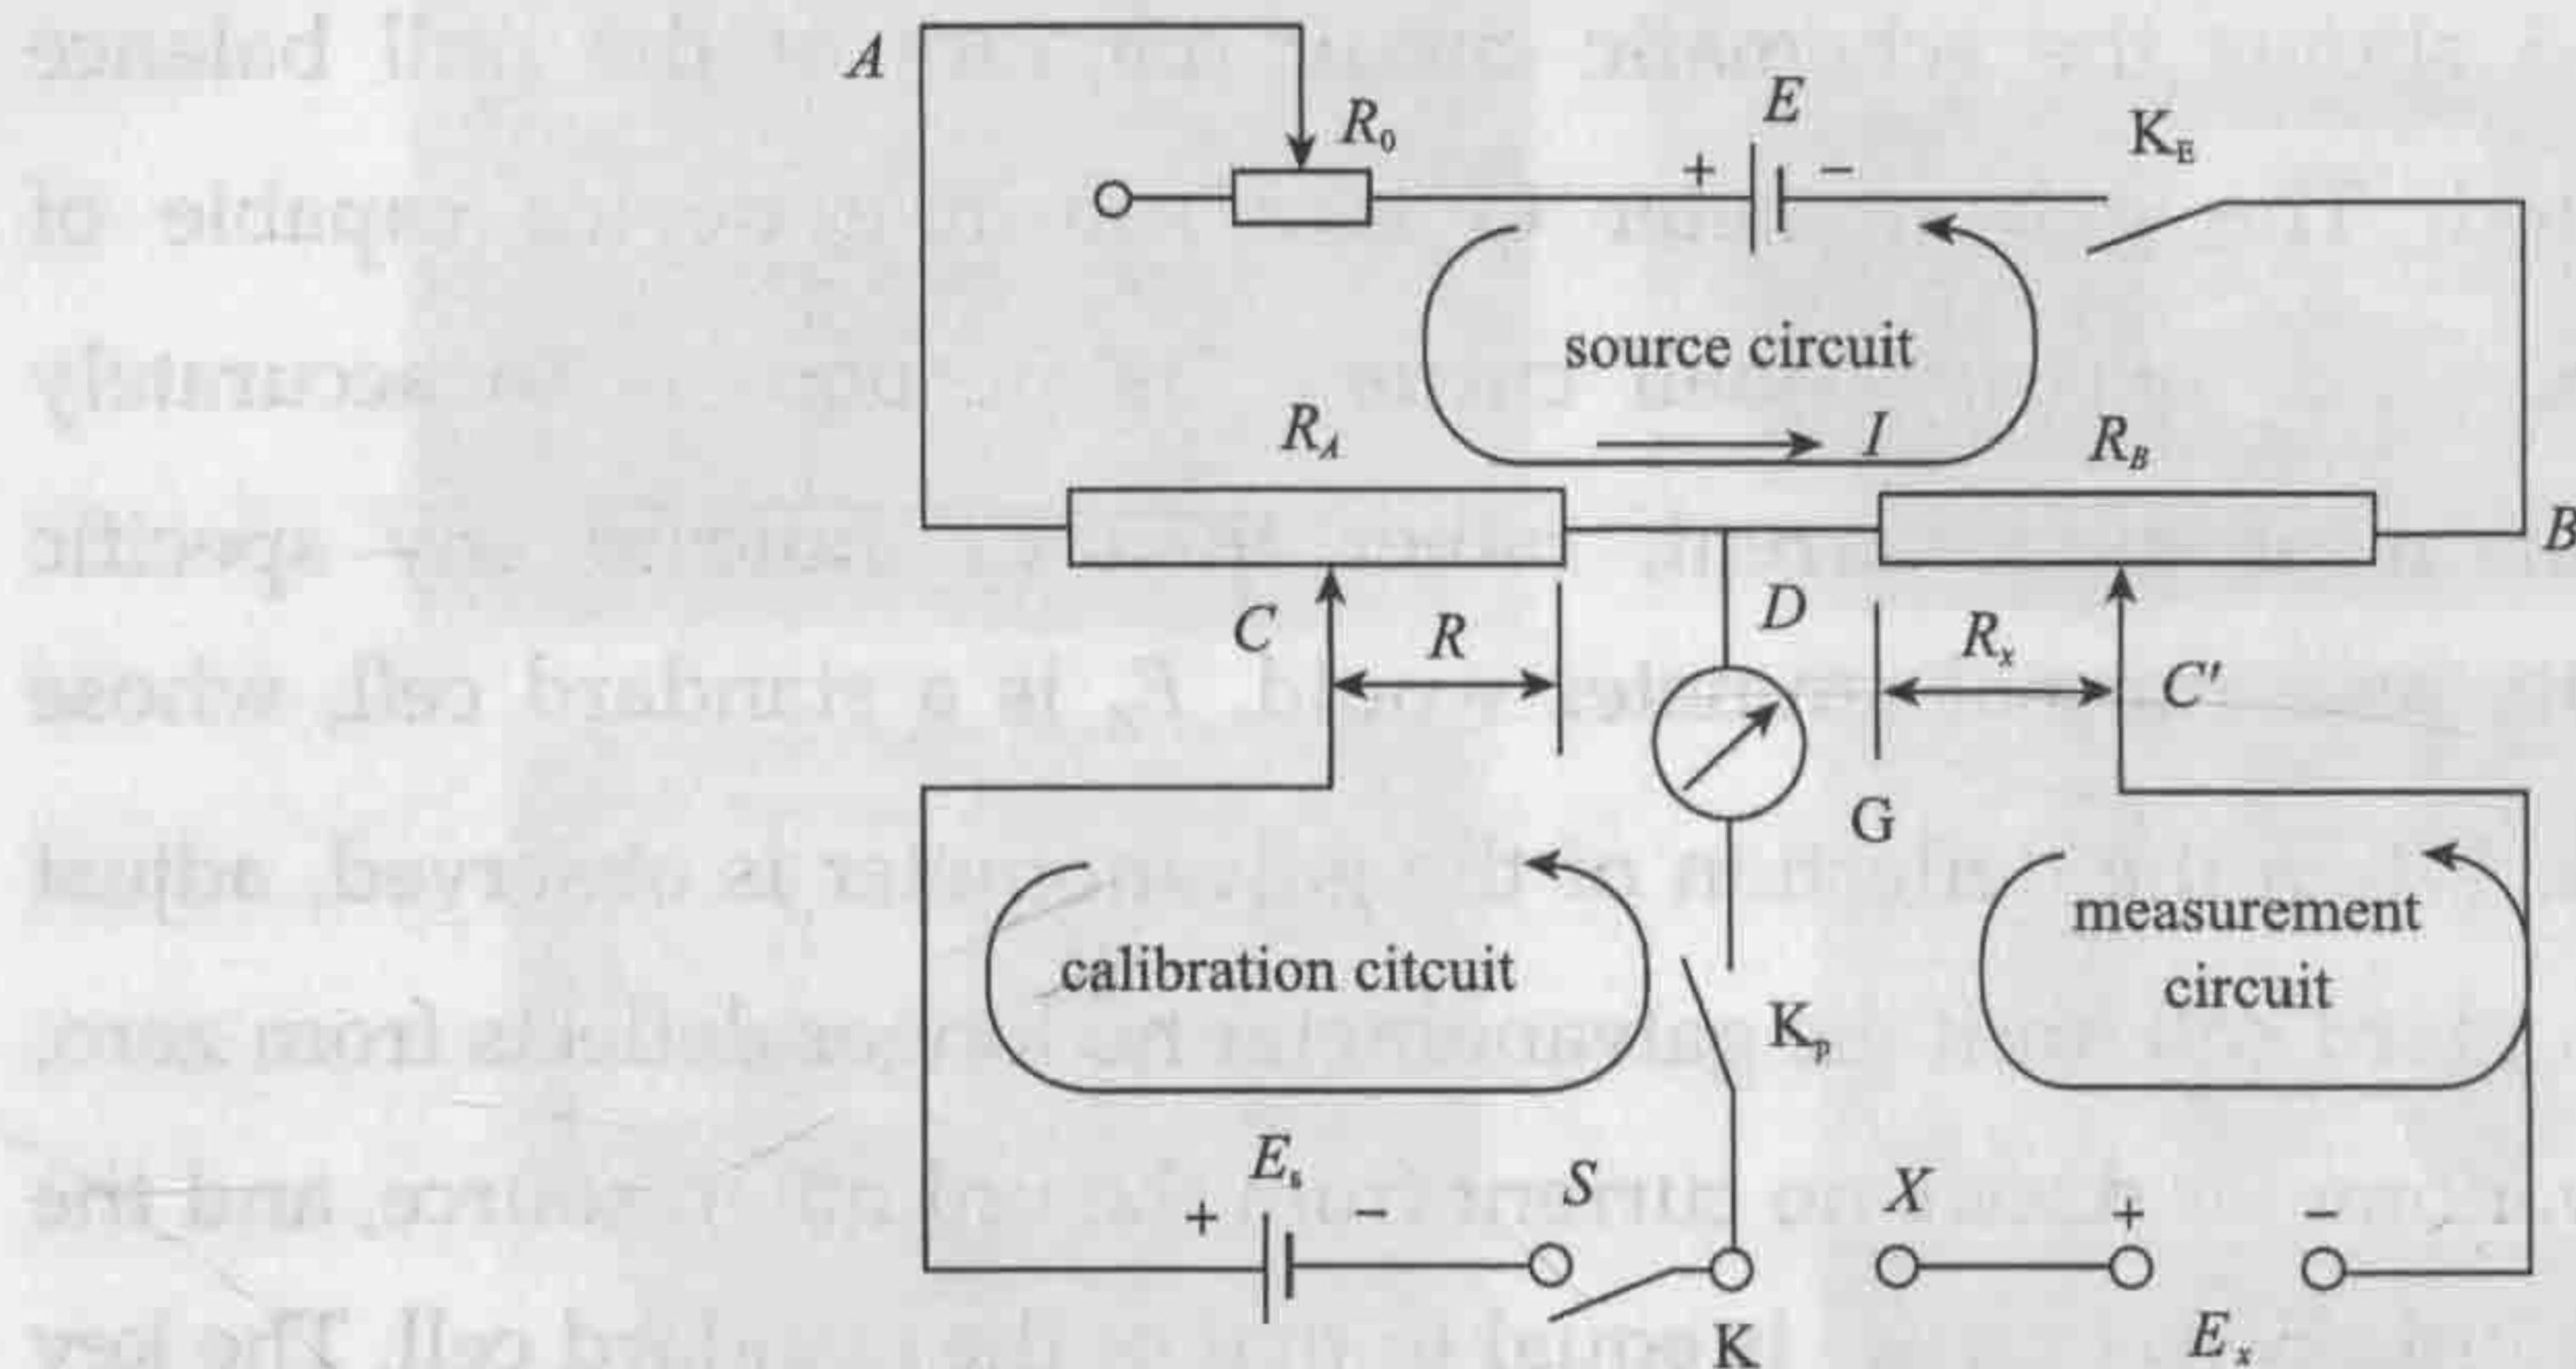

Fig. 3.15-4 A schematic circuit diagram of the potentiometer
- (1) Can we use a voltmeter to measure the emf of a cell? Why?
- (2) What is the null balance measuring method in electricity?
- (3) In Fig. 3.15-4, consider  $E_s = 2.000V$ . What's the resistance value of  $R$  in order to obtain a working current of 5.000mA in the source circuit? In the measuring circuit,  $R_x$  is  $201.5\Omega$  when the galvanometer reads zero. What's the measured emf?
The box potentiometer is constructed on the principle of null balance. A schematic diagram of the potentiometer is shown in Fig. 3.15-4, where  $E$  is a stable current source with a constant voltage greater than any voltage to be measured,  $E_s$  is a standard cell with emf of 1.0185 V,  $E_x$  is an unknown emf produced by thermocouple in this experiment,  $R_0$  is a variable resistor,  $R_A$  and  $R_B$  are two resistors,  $C$  and  $C'$  are two sliding contacts which varies the resistances in the calibration and measurement circuits,  $R$  and  $R_x$  are the
$R_1$ $R_2$ $R_3$	They are the resistance $R$ in Fig. 3.15-4. Tune them to calibrate the current in source circuit to 10.000 mA when the galvanometer reads zero
$K$	It is the switch $K$ in Fig. 3.15-4. When calibrating, it should be turned to "standard"; when measuring, turn it to "unknown 1" or "unknown 2"; Turn it to "off" when it is not in use
Coarse Fine Short	They are the switch $K_p$ in Fig. 3.15-4. You will use it when calibrating and measuring. At the beginning of calibration or measuring, press down the "coarse" button and it will be observed that the galvanometer deflects far from zero. After the galvanometer deflects close to zero you can lock the "coarse" button and push down the "fine" button. The "short" button is used to calibrate the galvanometer
I II III	The resistance $R_B$ (or $R_x$ ) in Fig. 3.15-4. Tune them to make the measurement circuit null balance when the galvanometer reads zero. The values are transferred to millivolt due to the fixed current of 10.000mA through $R_B$ in the source circuit
(1) The output of the stable power supply is in the range of 5.7~6.4 V. We call it the working voltage of the potentiometer. Can we measure an emf by a potentiometer which is greater than the working voltage? Why?
(2) In Fig. 3.15-4, the purpose of the calibration circuit is to get a current of 10.000 mA in the source circuit. Can the calibration circuit be replaced by an ammeter? Why?